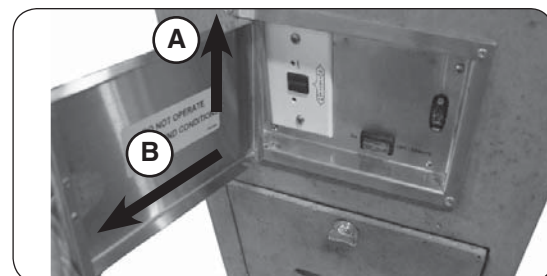

Fig. 37-2 Remove control panel door
1. Remove the control panel door by lifting it slightly, and pulling it away from the unit (see Fig 37-2).